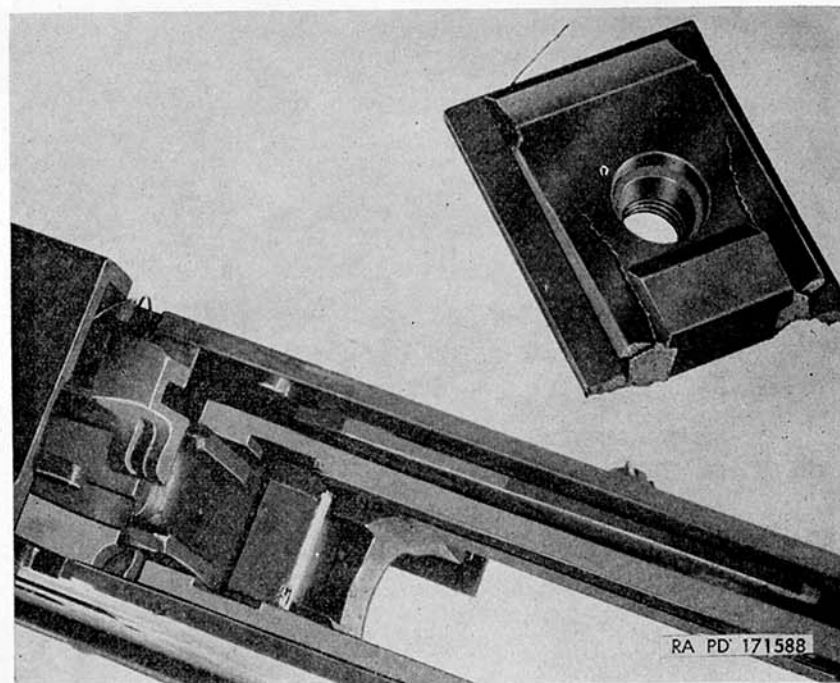

Figure 36. Cal..50 machine gun damaged by insufficient head space.
b. *Insufficient Head Space*. Insufficient head space, over a period of time, will cause malfunctions. Insufficient head space results in the bolt being pushed back slightly to the rear of its normal locked position, preventing full and proper engagement of the breech lock. Figure 36 shows damage that resulted from this condition. The bolt